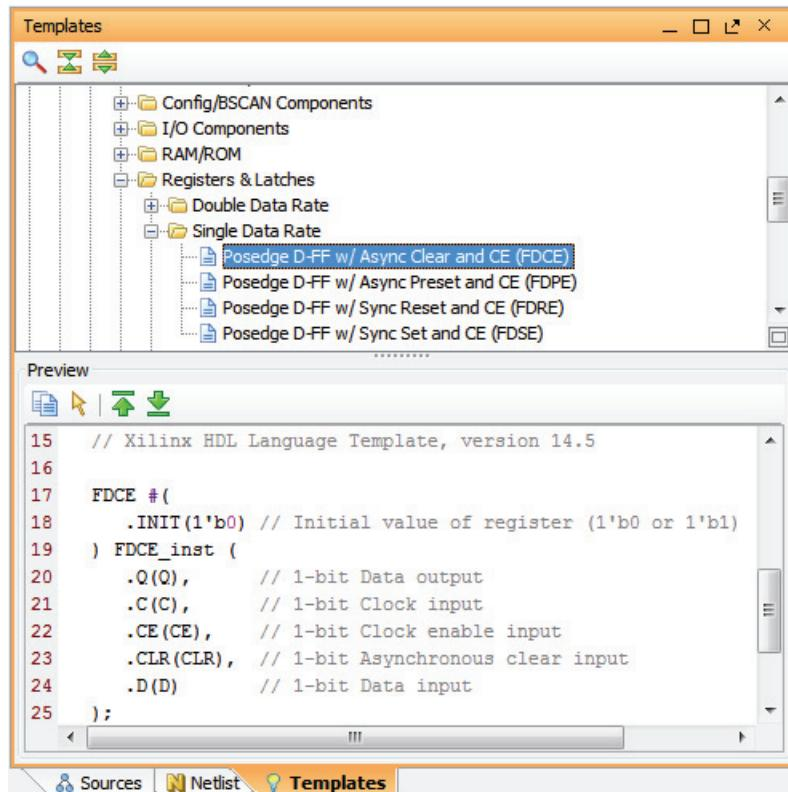

Figure 4-64: Xilinx Language Templates
The PlanAhead tool provides standard Verilog and VHDL language templates and UCF constraint templates for use with the Text Editor to quickly define certain logic constructs or design constraints. Selected templates can be instantiated into any file that is open in the Text Editor. Figure 4-64 shows the Template view with a selected language template.
2. Browse and select a template from the VHDL, Verilog, or UCF hierarchy in the Template view. Figure 4-64 shows an example of a Xilinx-supplied templates.